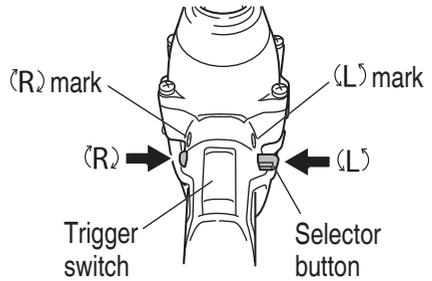

Fig. 5
The L-side of the selector button is pushed to turn the anvil counterclockwise (See **Fig. 5**) (The (L) and (R) marks are provided on the body).